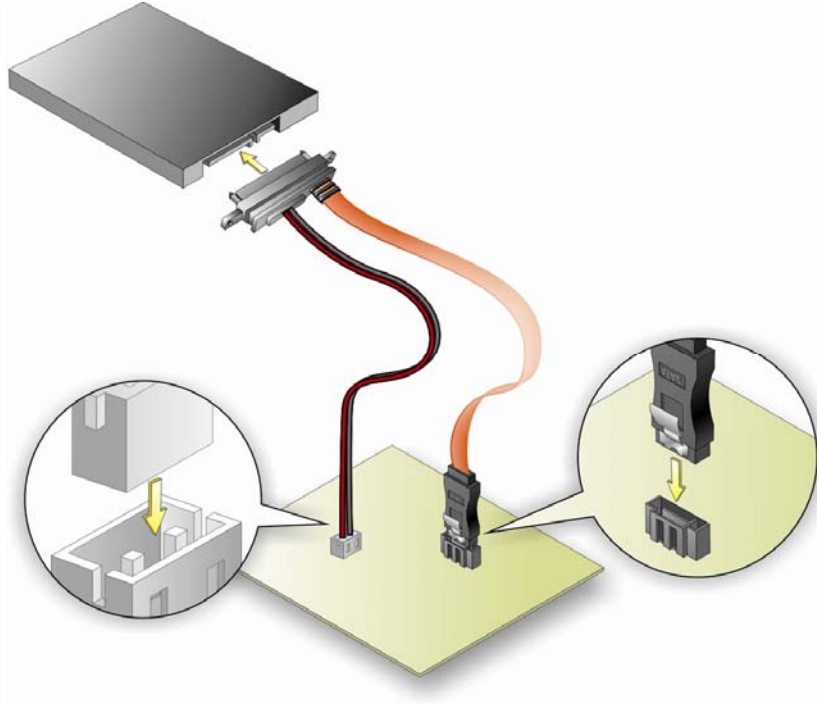

Figure 4-20: SATA Drive Cable Connection
Step 2: **Insert the cable connector.** Insert the cable connector into the on-board SATA drive connector and the SATA power connector. See **Figure 4-20**.
Step 3: **Connect the cable to the SATA disk.** Connect the connector on the other end of the cable to the connector at the back of the SATA drive. See **Figure 4-20**.